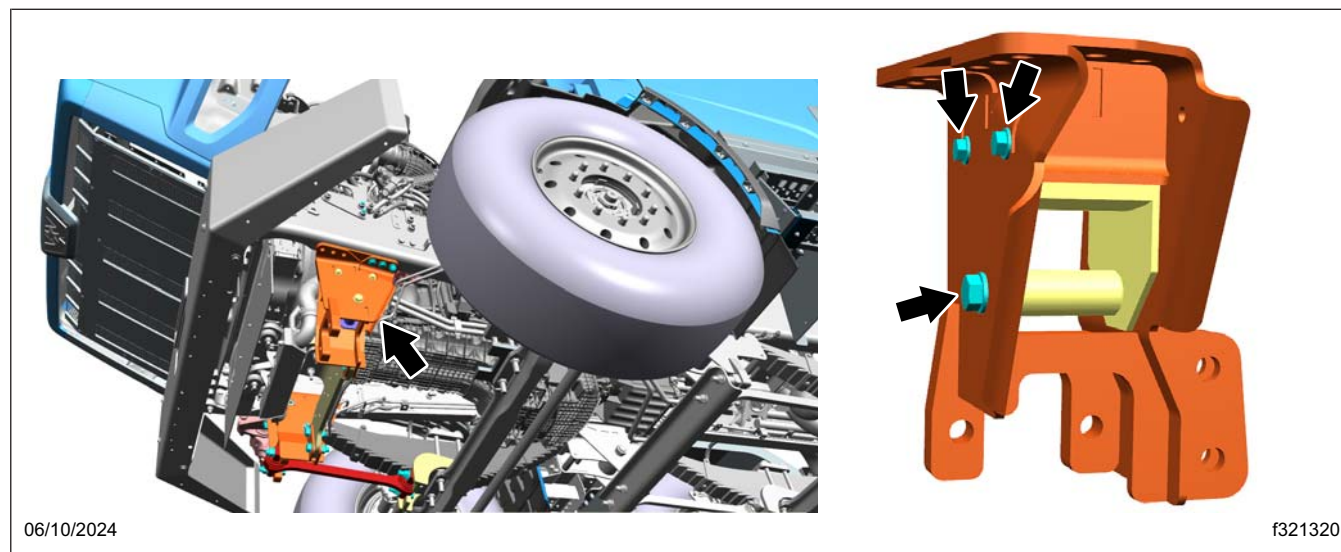

Fig. 4, Wear Pad Fasteners
6. Remove the wear pad fasteners that attach the wear pad to the hanger. See Fig. 4.